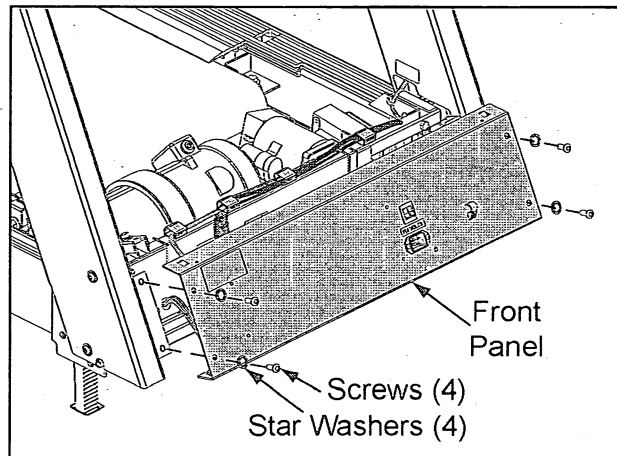

Figure 8
- C. Place the front end panel in position on the front of the treadmill. See Figure 8.
- D. Using the Allen wrench, attach the front end panel with four button head screws and four star washers. See Figure 8.